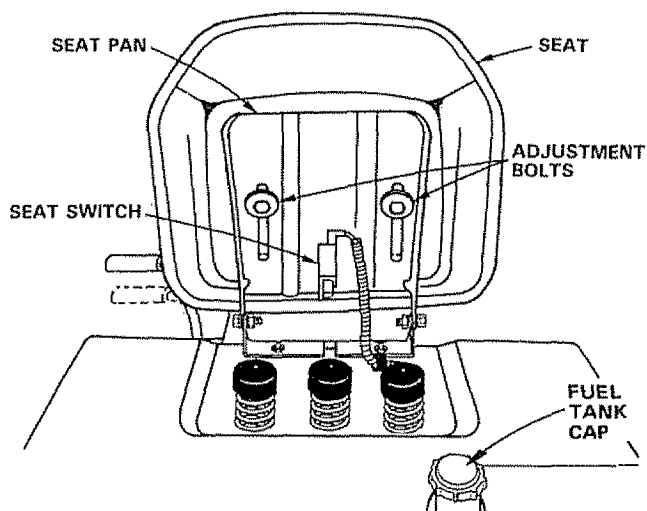

FIGURE 6
- Place Seat on Seat Pan. Screw Adjustment Bolts, Lockwashers and Flat Washers into Seat (Fig. 6). Adjustment Bolts, Lockwashers and Flat Washers found in Bag of Parts. Tighten finger tight.
- Raise Seat. Use 9/16" wrench to loosen Adjustment Bolts (Fig. 6). When adjusted for comfortable operation, tighten Adjustment Bolts securely.
2. Fill Fuel Tank (Fig. 6). Use fresh, clean, regular unleaded automotive gasoline. (Use of leaded gasoline will increase carbon and lead oxide deposits and reduce valve life). Capacity is 3 - 1/2 gallons.